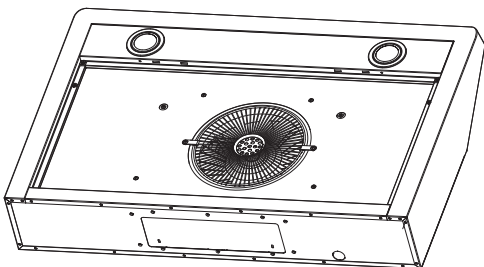

Figure 1
- Remove the 2 filters and easy-clean panel to allow access to the inside of the unit (see Figure 1 to 3).